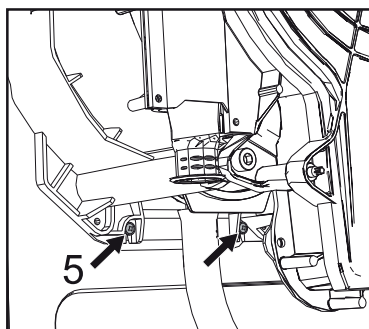

fig. 59 -
- Loosen the two lower screws "5" fastening the exchanger to the frame ("fig. 59 -")